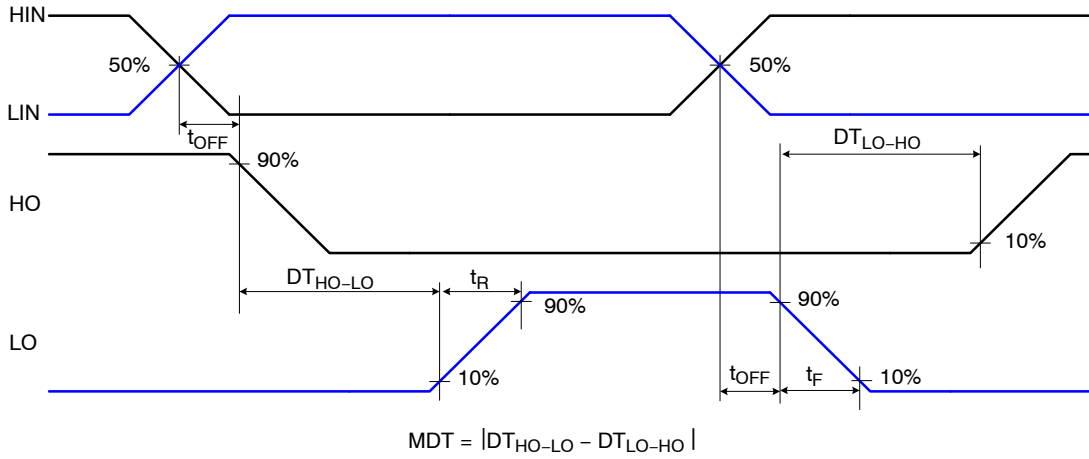

Figure 40. Internal Dead Time Definition
9. MDT is defined as  $|DT_{HO\_LO} - DT_{LO\_HO}|$  referenced to Figure 40.